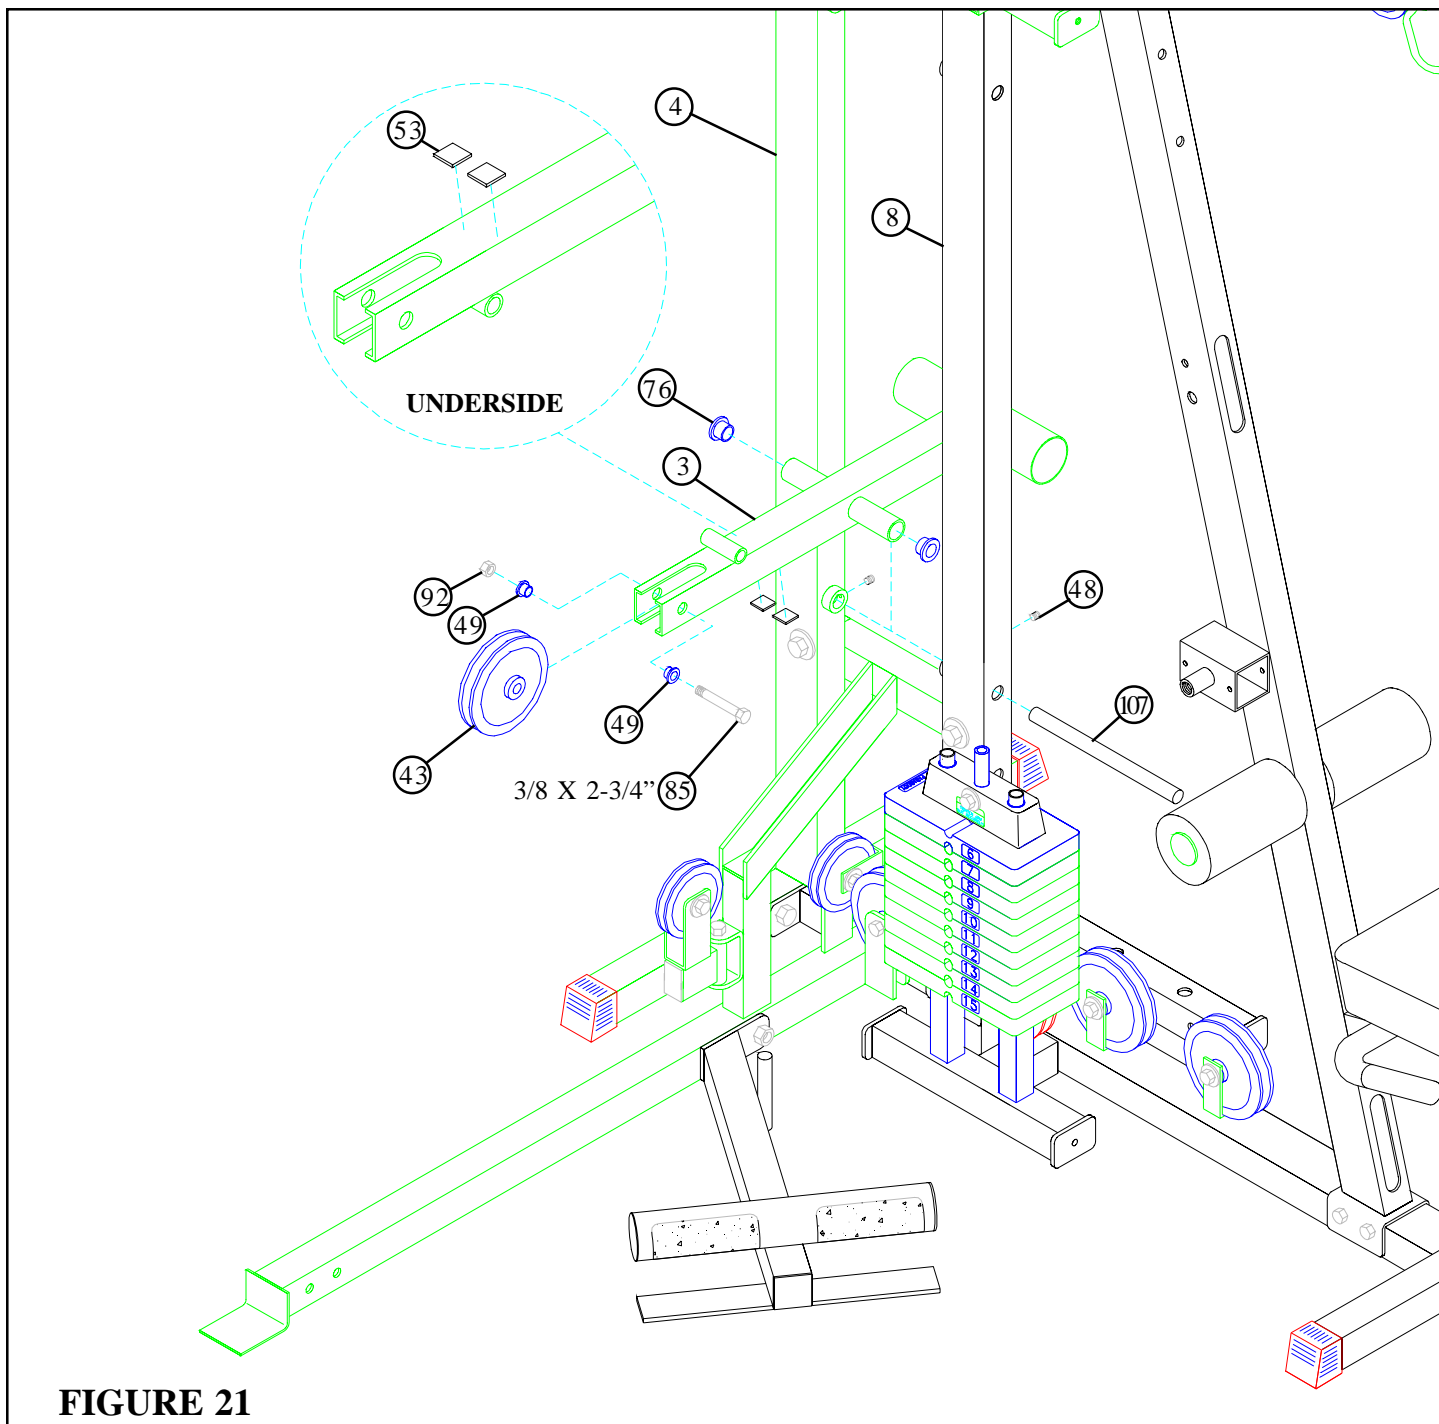

FIGURE 21
- **SECURELY** attach one 4-1/2" PULLEY(43) to the COUNTER LEVER (3) using one 3/8 X 2-3/4" BOLT (85), two 3/8" FLANGE SPACERS (49) and one 3/8" LOCK NUT (92). See FIGURE 21.
- Insert two 3/4" FLANGE BEARINGS (76) into the COUNTER LEVER (3) as shown in FIGURE 21.
- Hold the COUNTER LEVER (3) between the REAR (4) and MIDDLE UPRIGHTS (8) and slide the 3/4 DIA X 11" SHAFT (107) through the MIDDLE UPRIGHT (8), COUNTER LEVER (3), and through the collar on the REAR UPRIGHT (4). To **SECURE** the SHAFT (107) in place, insert two 5/16" SET SCREWS (48) into the collars on the UPRIGHTS and tighten. See FIGURE 21.